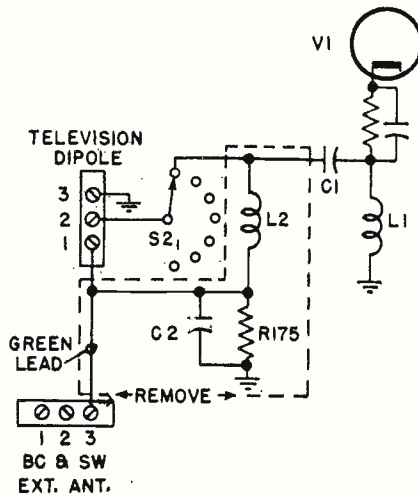

Figure 2
3. Remove green wire and 1.0 meg-ohm resistor $C175$ (see Fig. 2) from BC and SW external antenna terminal board, and discard parts. The green lead is end of lead removed in step (1).